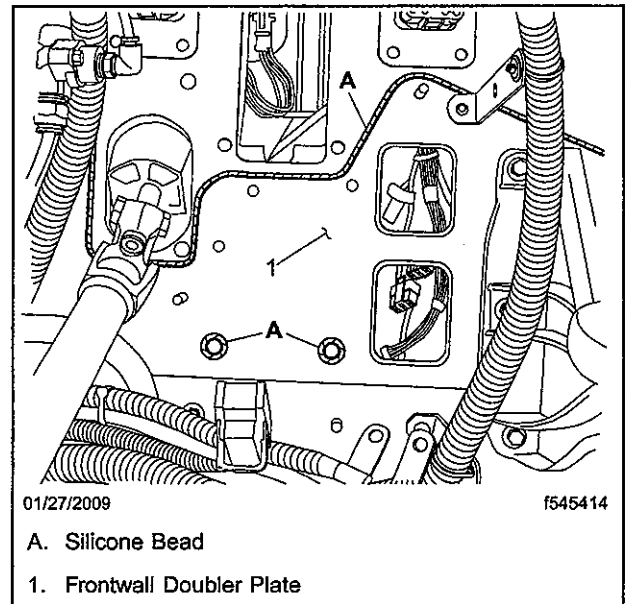

Fig. 14, Applying Silicone
28. If the vehicle was built before March 10, 2008, clean the edges of the frontwall doubler plate (see Fig. 14), then apply a bead of RTV silicone around the edges, extending the silicone bead all the way to the outboard edge of the frontwall. Also, apply a bead around the two lower holes in the doubler plate. The RTV bead should be 1/8 inch diameter and should be forced into the seam between the doubler plate and the frontwall. See Fig. 14.